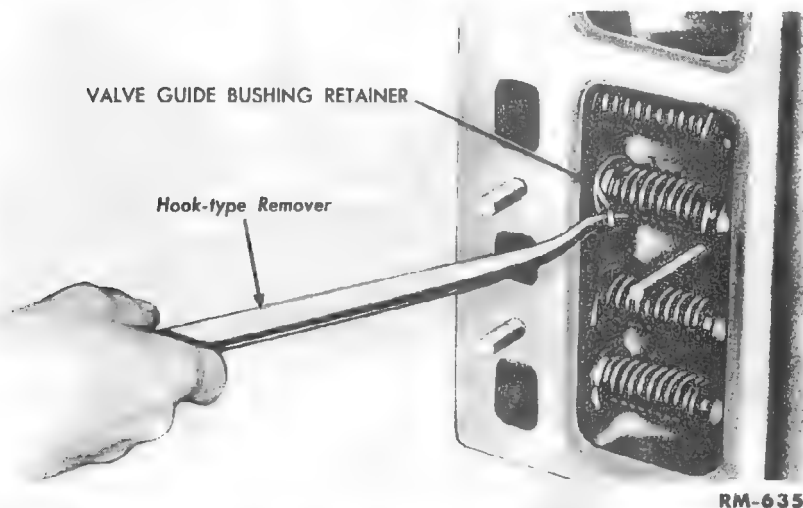

Fig. 39—Removing Valve Guide Bushing Retainer
b. Remove Valve. Disconnect the choke and throttle rod from the carburetor. Remove the air line from the air cleaner to the carburetor. Disconnect the muffler from the exhaust manifold. Remove the carburetor and manifold as an assembly. Remove the valve covers. Crank the engine until the valve to be removed is closed. Remove the retainer with a hook-type remover (fig. 39). Remove the valve assembly.